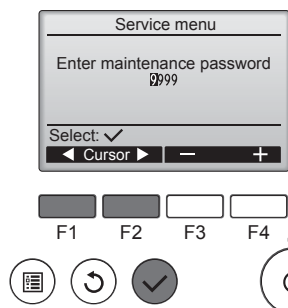

Fig. 6-2
① Select "Service" from the Main menu, and press the [✓] button.
② When the Service menu is selected, a window will appear asking for the password. (Fig. 6-2)